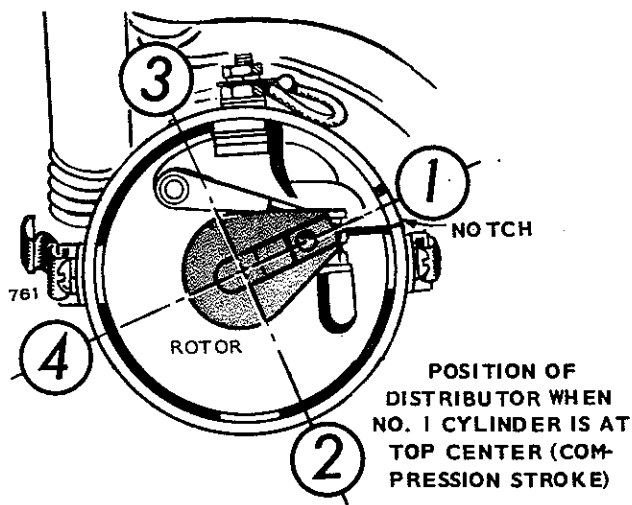

FIGURE 10-60. DISTRIBUTOR POSITIONING
3. While holding distributor in position shown in Figure 10-60 and the rotor 1/8 turn counterclockwise from the position shown, push the distributor into its mounting hole. If necessary, turn the rotor slightly to align teeth of gear. If the rotor is not in position shown in Figure 10-60 after the gears mesh, repeat the procedure, changing the gear alignment.
4. Install distributor clamp screw. If spark plug leads were removed from distributor cap, reinstall them in proper firing order, Figure 10-60. Time ignition system.